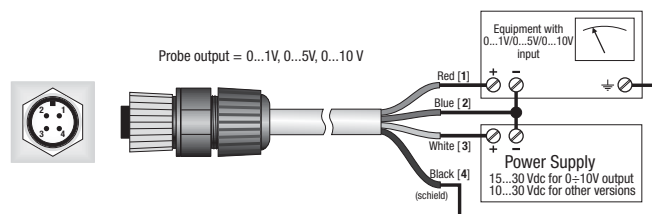

Fig. 8
- LP PYRHE 16 AV should be connected to a power supply device and to a multi-meter according to the scheme below (figure 8), the load resistance for signal readout should be $\geq 100 \text{ k}\Omega$: